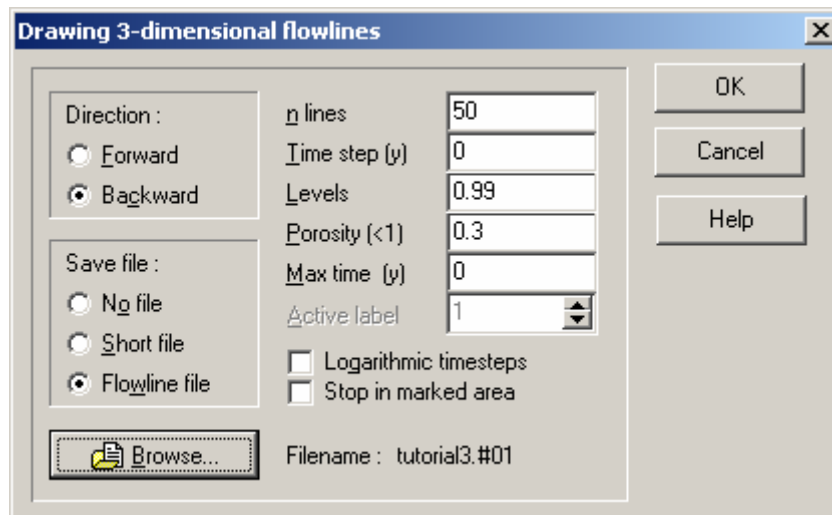

Figure 52: Flowline window
2. Go to Drawing mode and either click on the , press the F9-key, or select Command → Draw flowlines from the main menu. A new pop-up window appears (Figure 52):